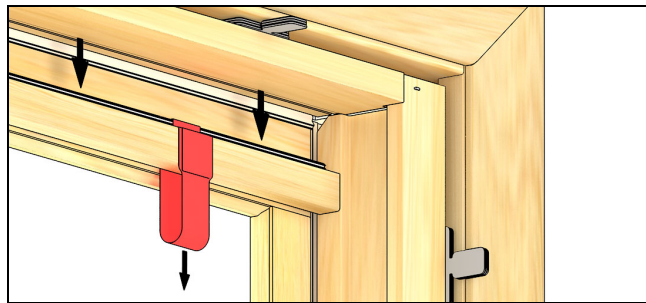

Figure 2
4. Remove head jamb parting stop with tab 1. See Figure 2.